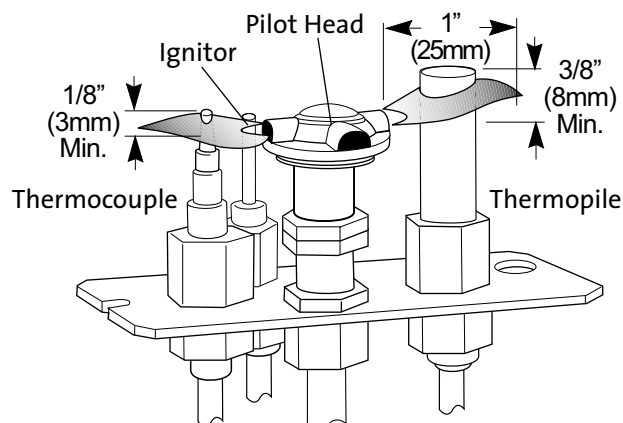

Figure 30. Correct pilot flame alignment.
The pilot flame should engulf the top 3/8" of the thermopile (to generate millivolt current) and the top 1/8" of the thermocouple. The pilot flame should project out of the pilot hood 1" at all three ports. See figs. 30.
- **Inspect the pilot head, thermopile and thermocouple for signs of rust or deterioration and replace any components that do.** Check that the pilot head is properly engaged with the throat and is oriented correctly. See fig. 30, page 21.